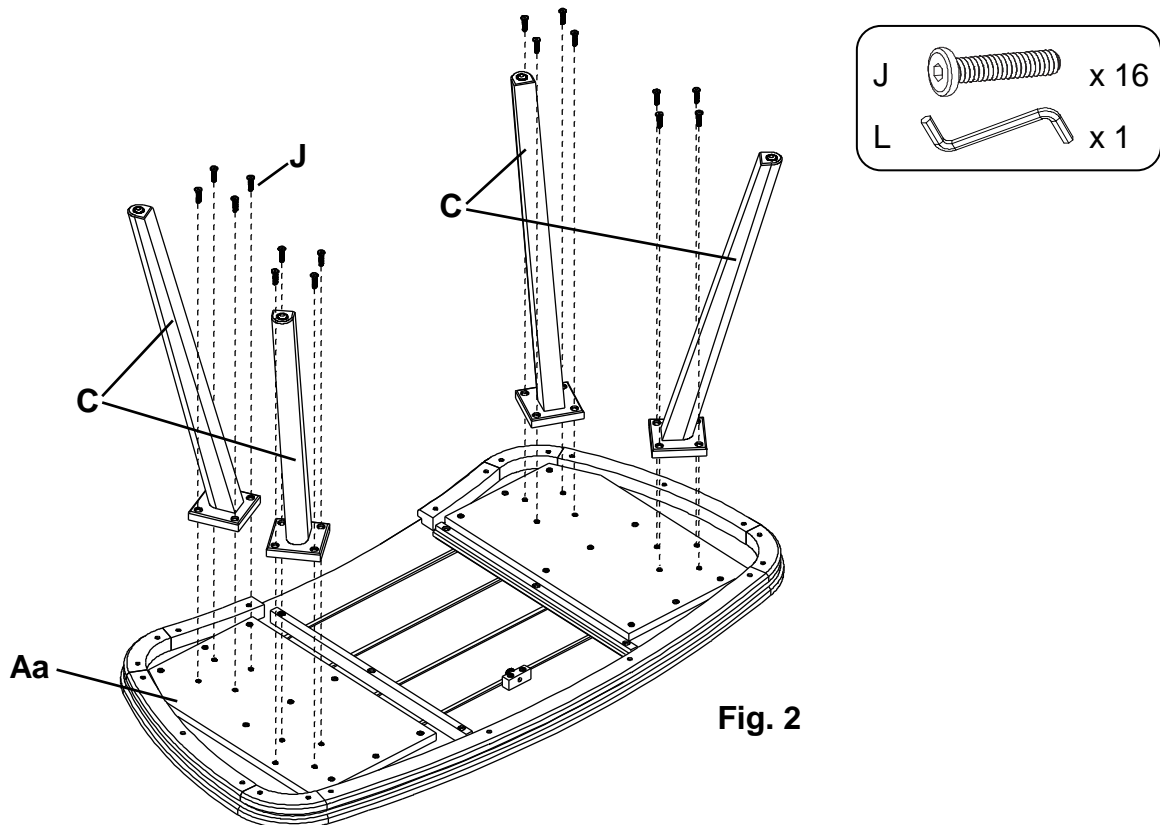

Fig. 2
2. Attach four Legs (C) to the Top Assembly (Aa) with sixteen 5/16" x 30mm Hex Bolts (J). See Figure 2.